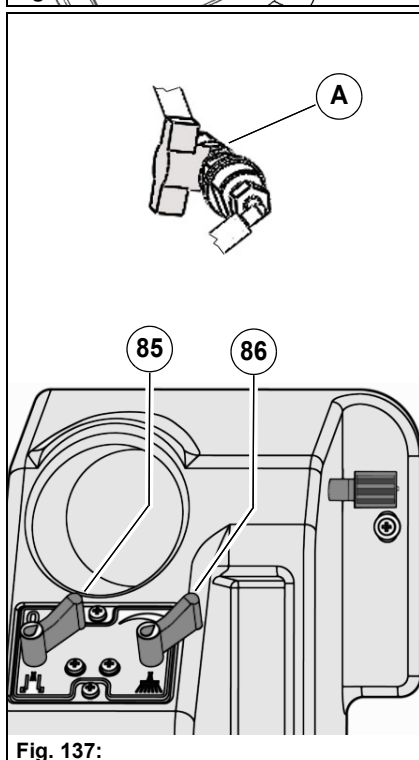

Fig. 137:
- Fresh water can be supplied between the rotating brushes by a fresh water nozzle with the lever **Fig. 137-A** of the sweeping unit.